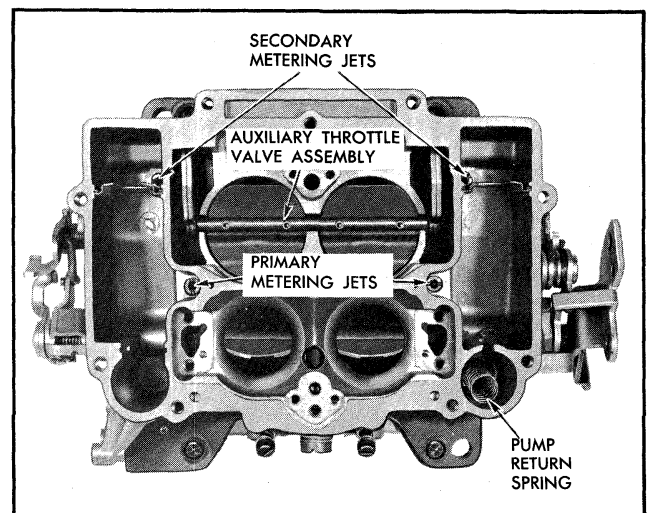

Fig. 6B-81 Body Assembly with Cluster Removed
10. Remove secondary venturi on pump and choke sides (Fig. 6B-80).
11. Lift out auxiliary throttle valve, shaft and weight assembly (Fig. 6B-81).